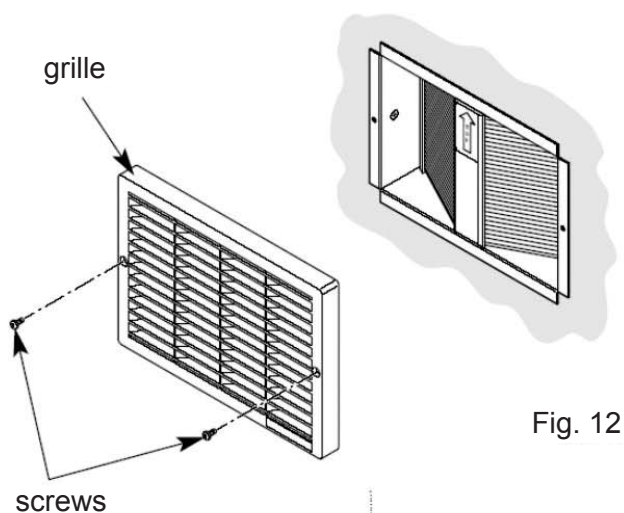

Fig. 12
4. Undo the two grille securing screws and remove the grille (Fig. 12).